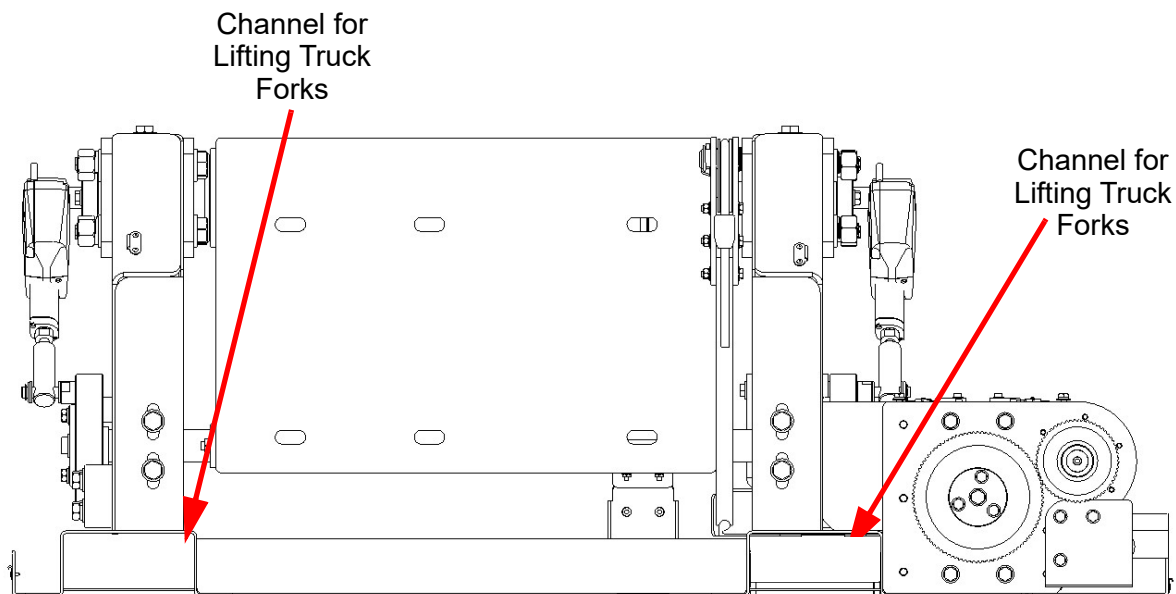

Figure 5-2 Lifting Points
6. **If using a lifting truck:** Using the lifting truck, carefully lift the system by inserting the truck forks into the tilt system channels (Figure 5-2).